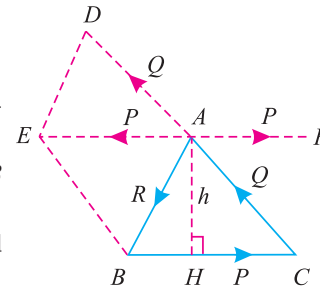

Fig. 4.16.
**Solution.** The system of forces on the triangle ABC is shown in Fig. 4.16. Now complete the figure as discussed below :
3. Now apply two equal and opposite forces (P) at A represented by AE and AF.